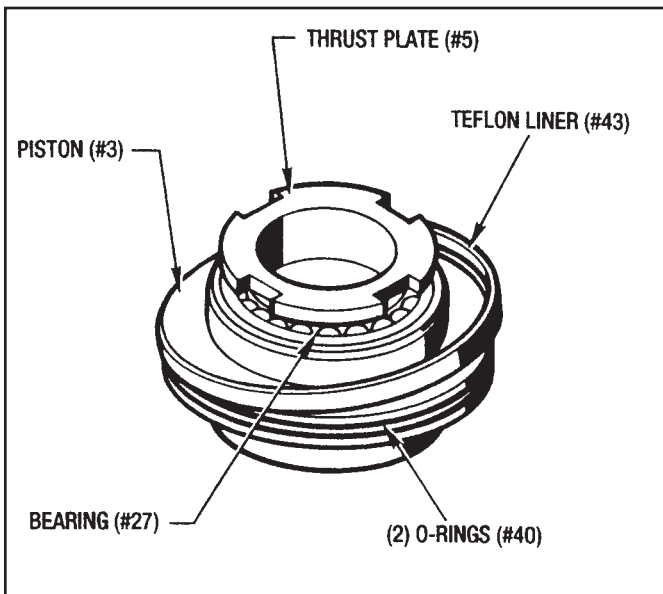

Figure 7.5 - Piston Sub-Assembly
3. Remove the Piston Subassembly which consists of: (a) Thrust Plate (#5), (b) Piston (#3), (c) Bearing (#37), (d) Teflon Liner (#43) and (e) (2) O-Rings (#40).
4. The Teflon Liner (#43) and the (2) O-Rings (#40) can now be removed for inspection and replacement. (See Figure 7.5)